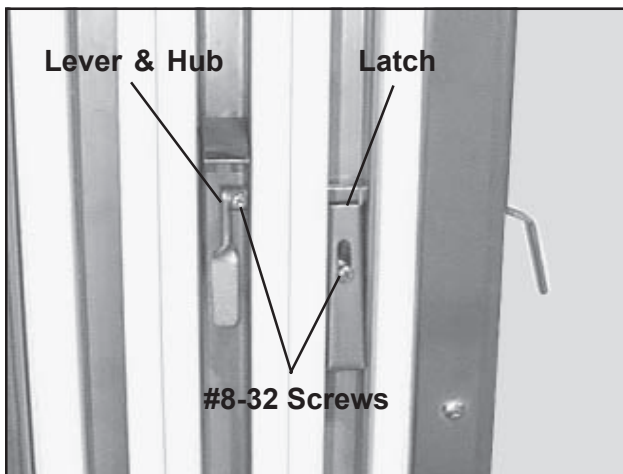

Figure 50. Complete Latch Mechanism
6. Pass an #8-32 screw (**H**) through the elongated hole in the latch (Figure 50) and screw it into the stud on which you placed the spring in *Step 1*.